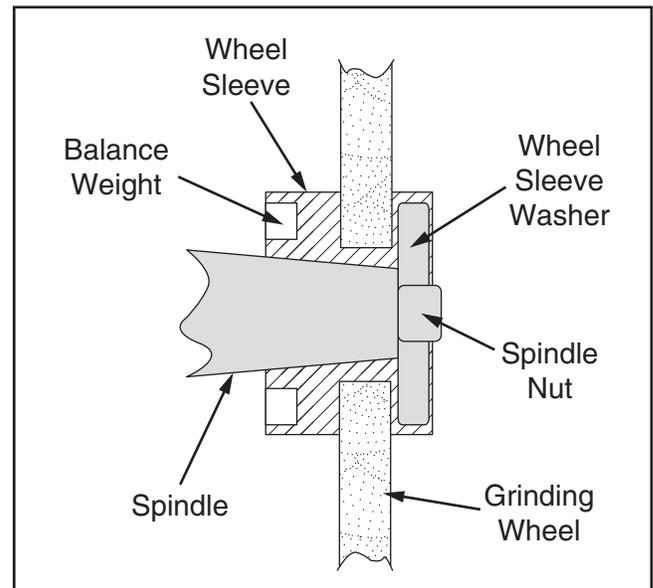

Figure 14. Cross section of wheel assembly.
The wheel and sleeve assembly must be balanced before mounting onto the grinder. Generally the wheel itself will be balanced by the manufacturer. The wheel sleeve has balance weights positioned in a groove which can be moved to accomplish final balance of the assembly (see **Figure 14** on the previous page).
3. With the pin wrench engaged in the two holes on the face of the wheel sleeve washer (see **Figure 14**), hold the spindle in position.